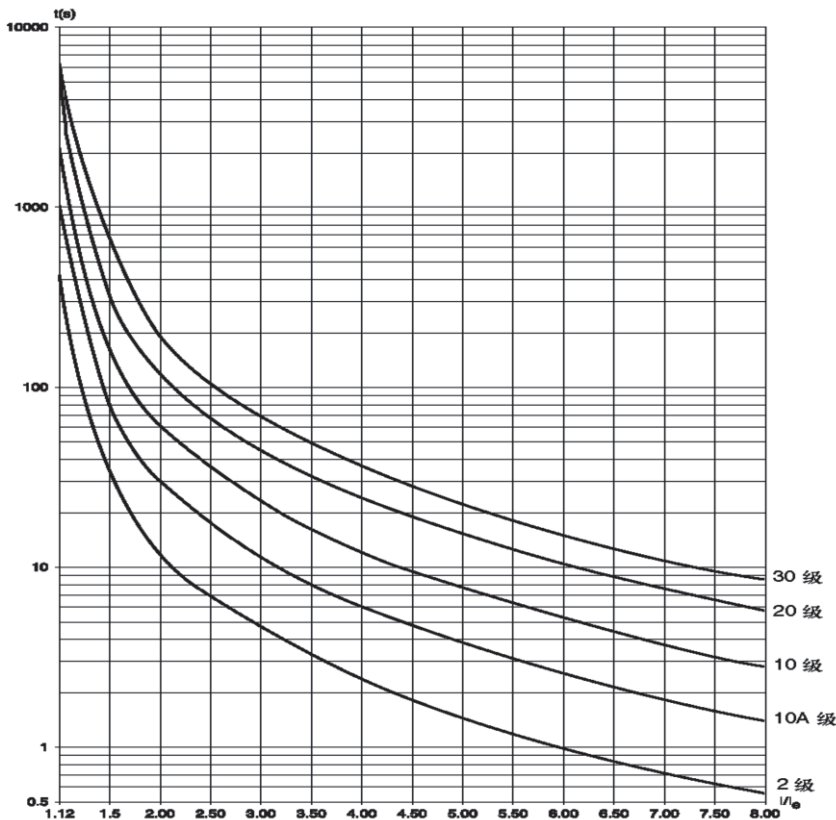

Figure 8.1 Standard thermal overload protection curve
8.3.8 Running Overload Protection Time: Reverse Time Thermal Protection Based on the Set Value of Code F07 or F19, The standard thermal overload protection curve is shown in Figure 8.1, and the typical value is shown in Table 8.4.